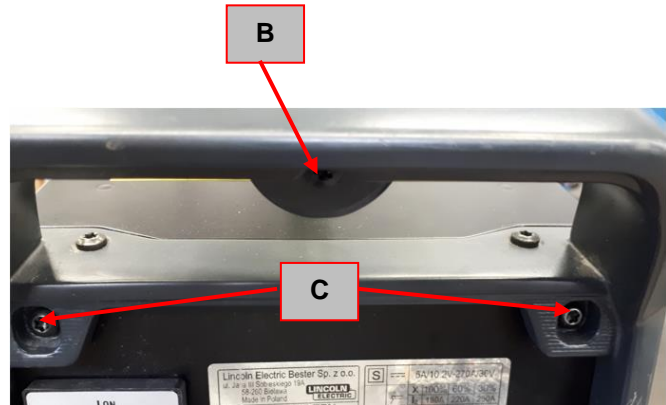

Figure 17
5. Using the screwdriver PH02 remove the screw (**B**) that is fixing the metal handle. See **Figure 17**
6. Using the Torx 25 wrench remove the two screws (**C**). See **Figure 17**